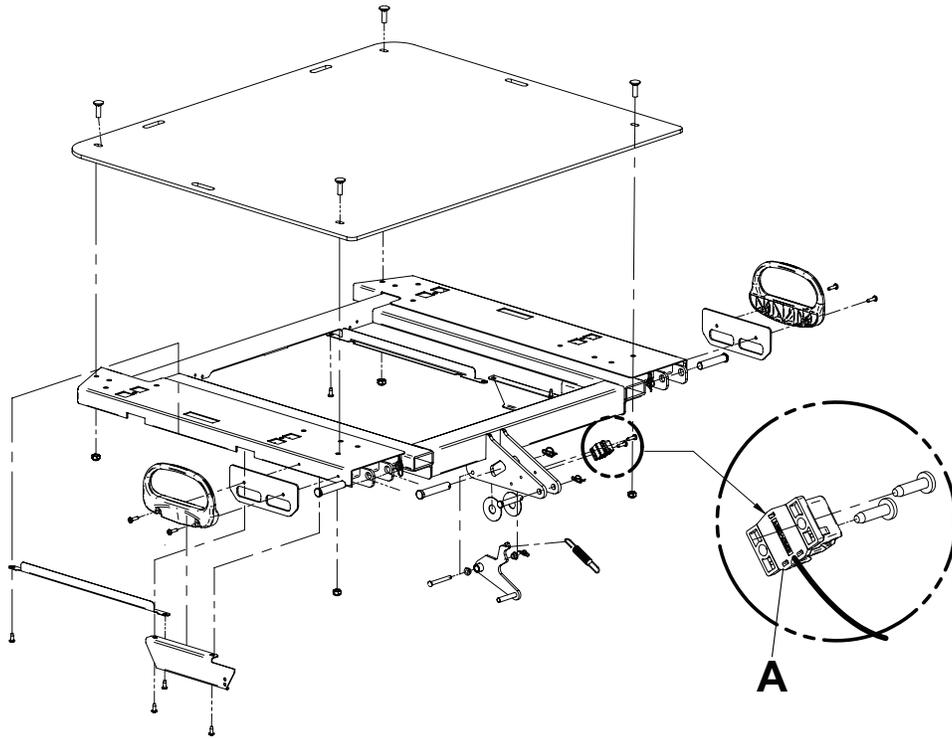

Figure 65 – Fowler angle sensor
5. Working from the left side of the bed, use a #2 Phillips short screwdriver to remove the two screws that secure the Fowler angle sensor (A) to the bottom of the Fowler frame (Figure 65). Save the screws.